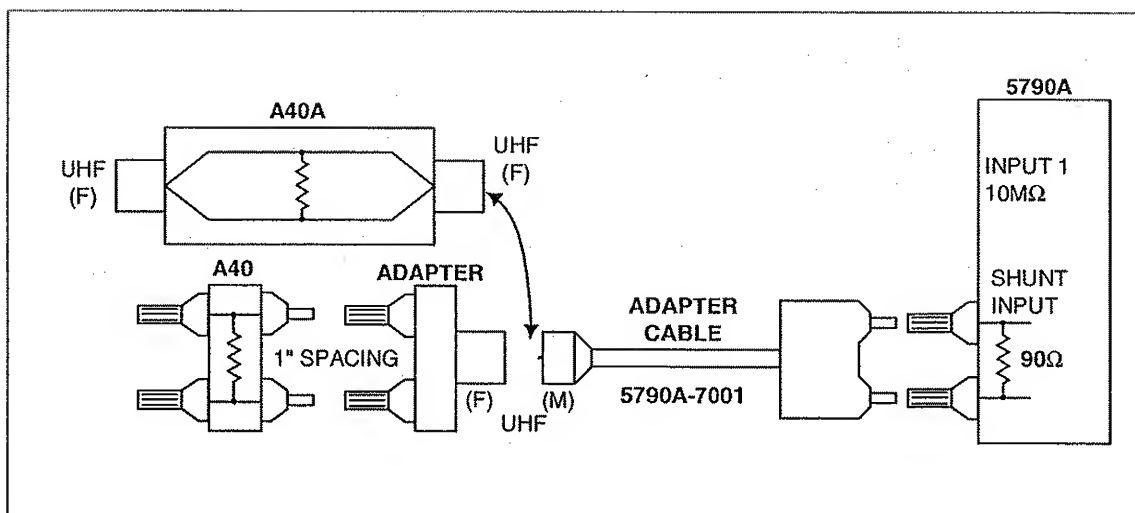

Figure 4-3. Measuring Relative Current Using 5790A-7001
The 5790A Shunt Input is internally terminated with a 90 resistor that allows for direct connection to current shunts. Connection to A40 and A40A Current Shunts requires the 5790A-7001 accessory which consists of an adapter and cable. The cable is approximately 36 inches long and has a male banana plug on one end and a UHF(M) connector on the other. This cable connects between the 5790A Shunt Input and either the A40A Current Shunt or the adapter (see Figure 4-3). The adapter has a UHF(F) connector on one end and one-inch spaced female banana plugs on the other. This one-inch spacing allows for connection to the A40 Current Shunt.